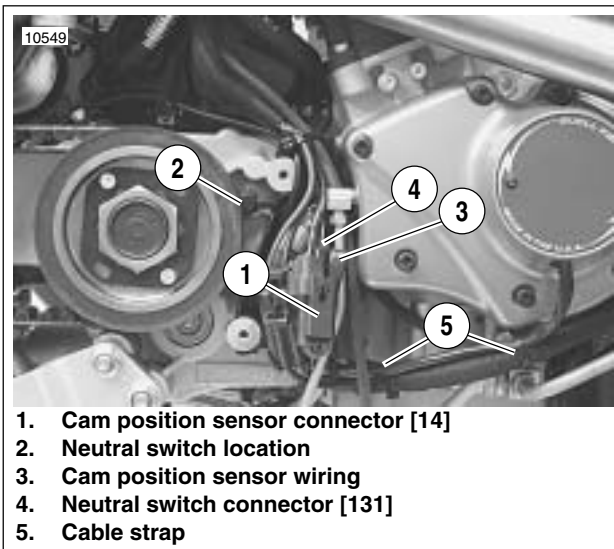

Figure 7-90. Neutral Switch Wiring
6. See Figure 7-90. Form a loop (6) as shown using neutral switch wiring.